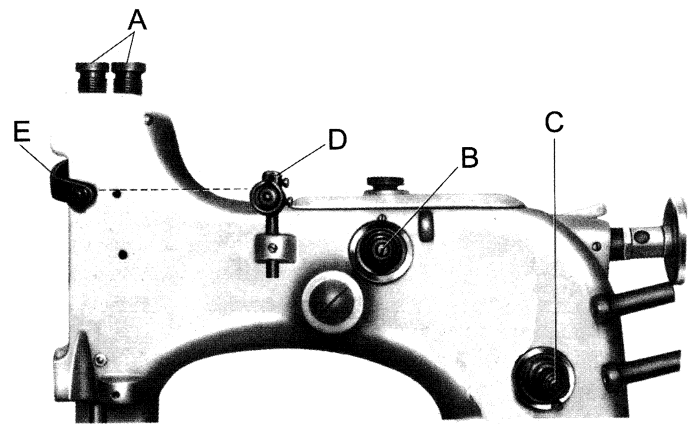

Fig. 11
Lowering the collars (A, Fig. 11) increases the pressure, raising the collars decreases the pressure.
The eyelet (D, Fig. 11) should be positioned so, that the needle thread runs nearly horizontal, parallel to cloth plate, between eyelet (D) on needle bar connection and eyelet (D) on machine arm, when the needle is in its upmost position. Eyelet (E) is secured by screw.